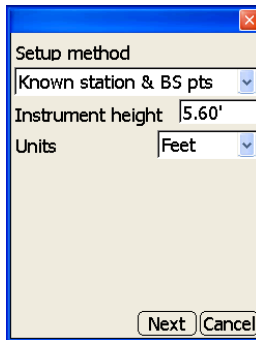

Figure 5-4. Enter Instrument Height
6. On the **Setup method** dialog box, enter the following information and press **Next** (Figure 5-4 on page 5-4):